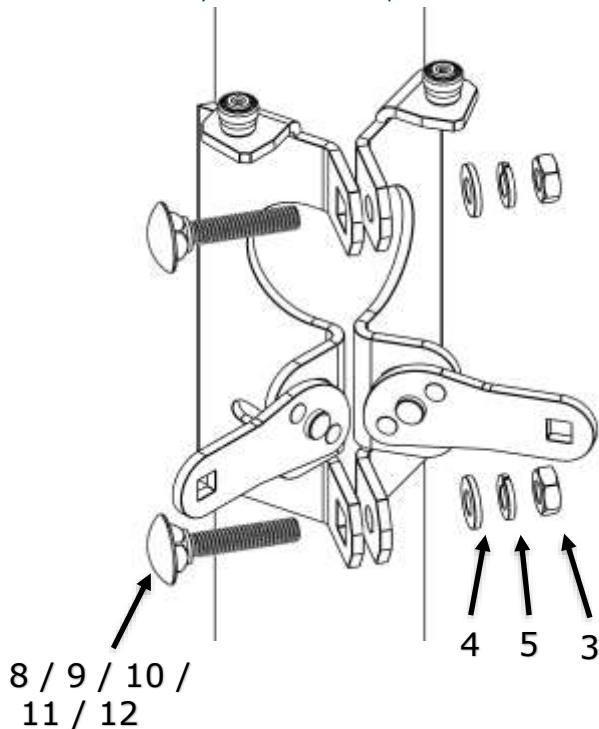
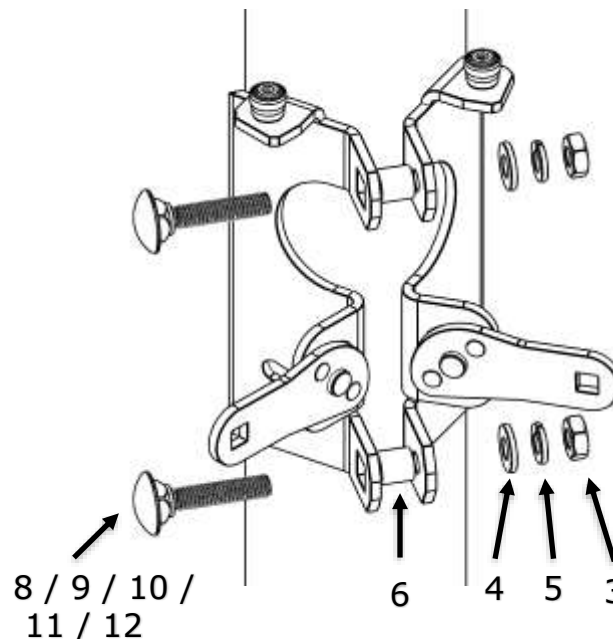

Figure 6: Attach top brackets to pole – 3.5" diameter shown as example
Figure 7: Attach top brackets to pole – 4" diameter shown as example
NOTE: These item numbers refer to Figures 6, 7, 11, 12, and 15.
NOTE: These item numbers refer to Figures 6, 7, 11, 12, 13, 14, and 15.
- Install three top brackets around pole with selected hardware as shown in *Figure 6* (example 3.5" pole diameter) and *Figure 7* (example 4" pole diameter).